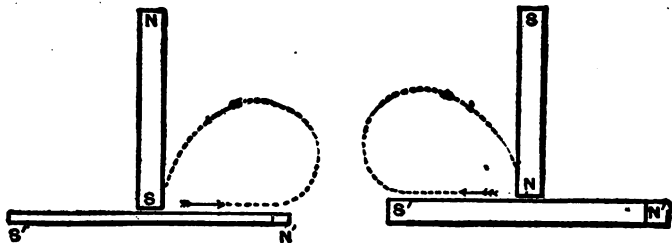

Fig. 65. Making a Magnet by use of a Permanent Magnet.
1. Lay one down on the table and stroke one-half of the bar from the center out to the end. Fig. 65. Do this ten times with the S-pole of a permanent magnet,